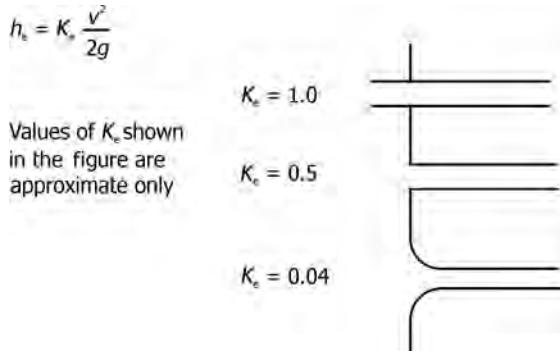

FIGURE 3.3 Losses on fluid entry into a pipe for different entry configurations.
- Losses can be reduced by accelerating the flow gradually and eliminating the vena contracta. Figure 3.3 illustrates different entrance configurations, showing loss coefficients.